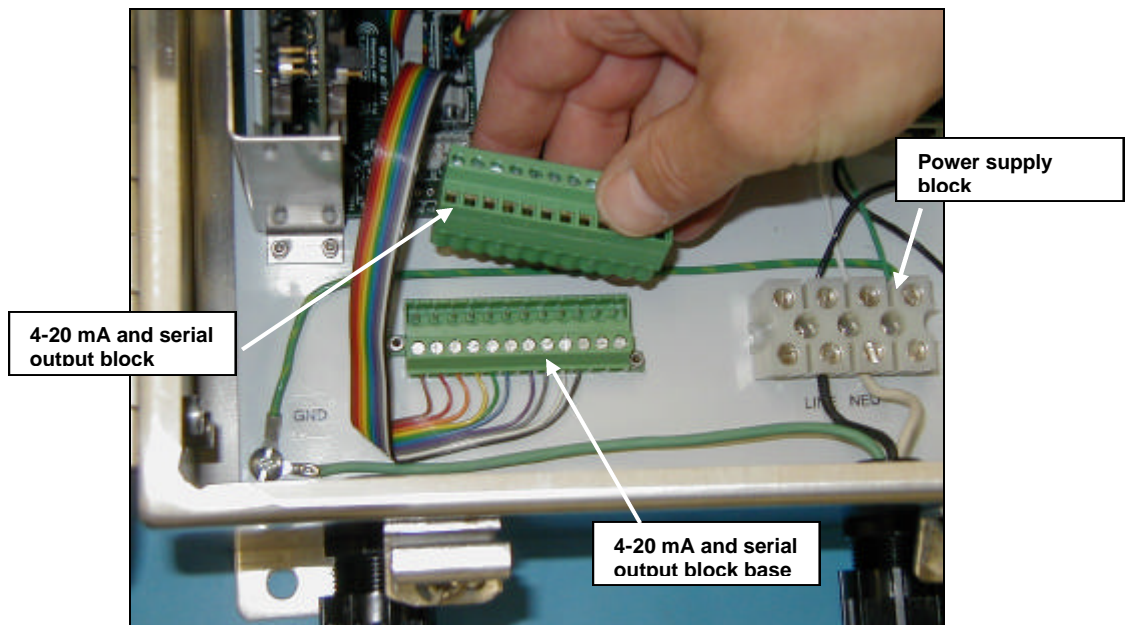

Figure 6 Remove the mating terminal block from base by hand.
5. The mating terminal block can be pulled up from its base to make cable connection easier. See figure 6.